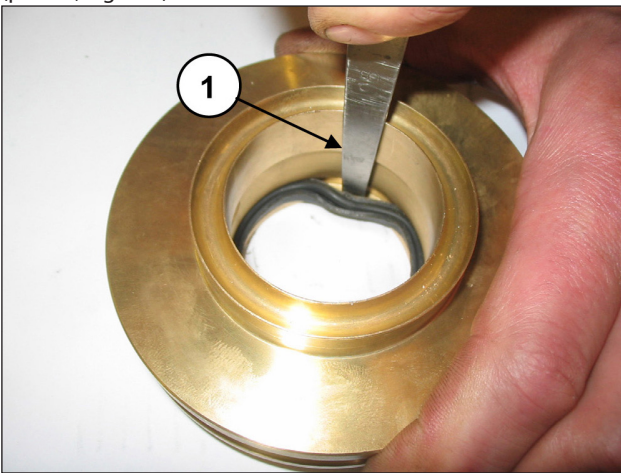

Fig. 123
To remove the low pressure seal, use a thickness gauge or another tool which will not damage the seal support housing (pos. ①, Fig. 123).